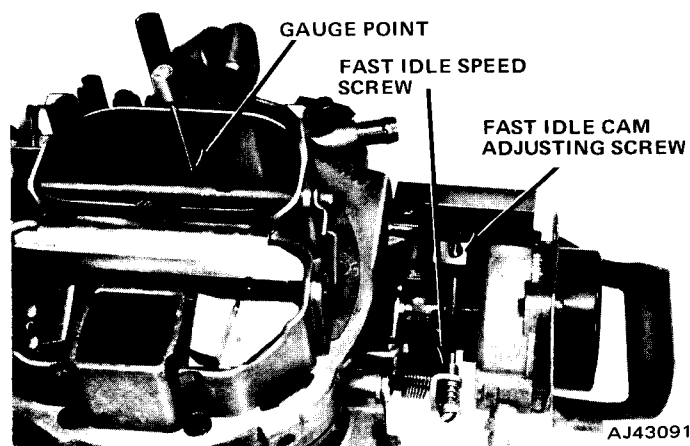

Fig. 4-81 Fast Idle Cam Linkage Adjustment
- (1) Rotate choke cover 1/4-turn clockwise (rich) and tighten the retaining screws.
- (2) Operate the throttle to allow the choke valve to close completely.
- (3) Push down on the fast idle cam counterweight until screw is in contact with the second step (index) and against the shoulder of the high step.
- (4) Measure the clearance between the lower edge of the choke valve and the air horn wall (fig. 4-81). Refer to Carburetor Service Specifications for the correct setting.